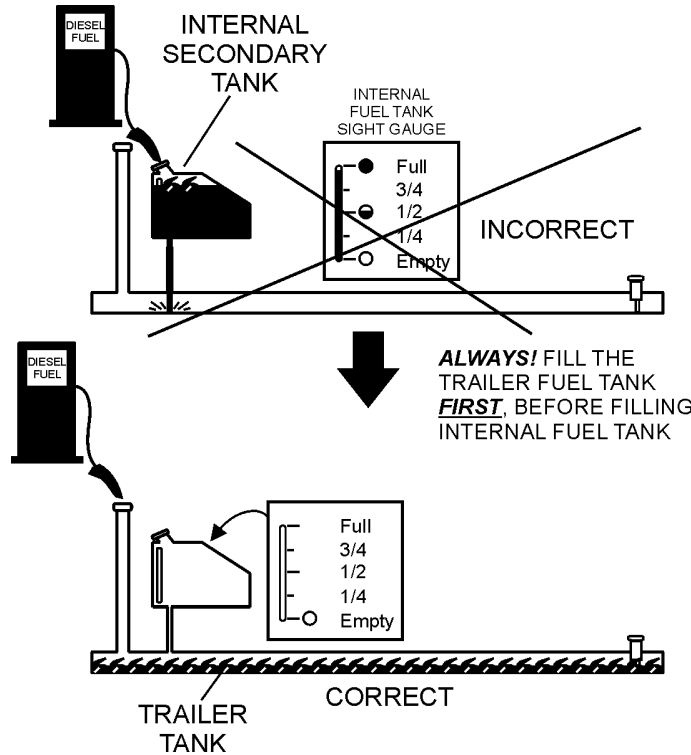

Figure 33. Fuel Tank Filling Order
2. **Trailer Fuel Tank First** – The trailer fuel tank is the primary fuel tank and holds a larger capacity of fuel. The fuel in the trailer will be filtered and sent to the engine. **ALWAYS** fill trailer fuel tank (Figure 33) first.